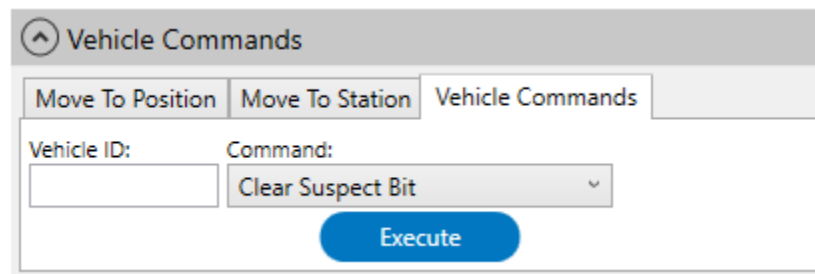

Figure 2-49: Vehicle Commands – Vehicle Commands, Clear Suspect Bit
*The **Vehicle Commands** tab is displayed as shown in Figure 2-49. The Command Menu defaults to Lock or the last command selected.*